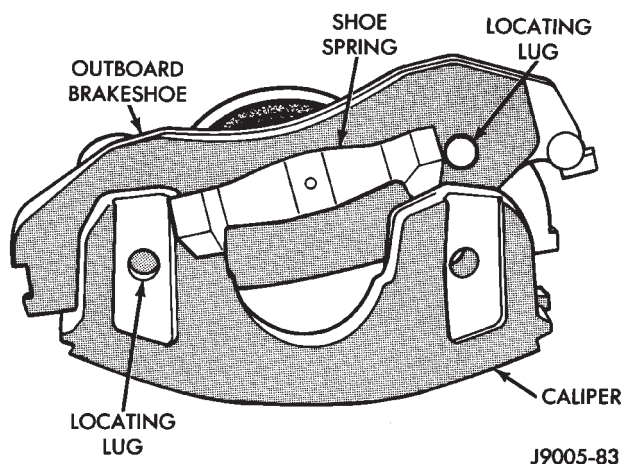

Fig. 9 Installing Outboard Brakeshoe
(4) Install outboard shoe in caliper (Fig. 9). Start one end of shoe in caliper and rotate shoe downward and into place until shoe locating lugs and shoe spring are seated in caliper.